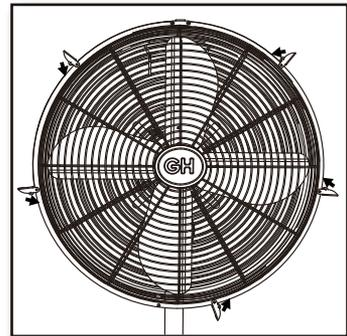

Figure 17
- Secure the grills completely together by snapping the 5 grill clips into place. Figure 17.